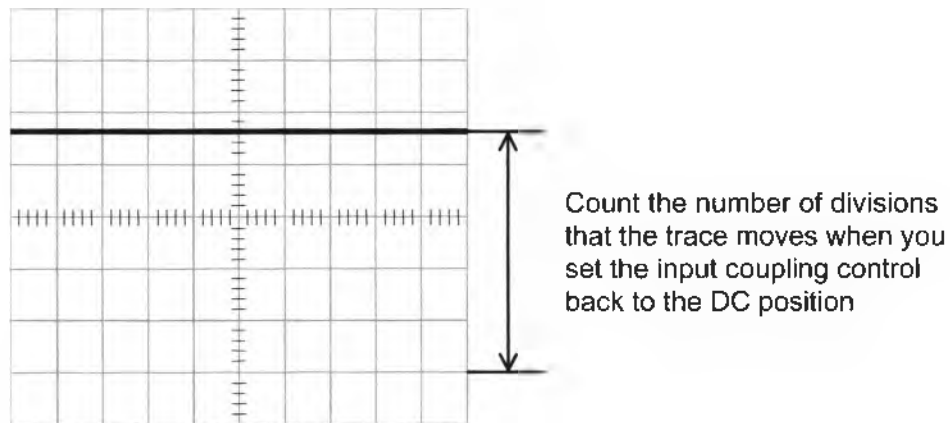

Figure 13
5. Count the number of divisions that the trace moves from the horizontal line that you aligned it to (see Figure 13).